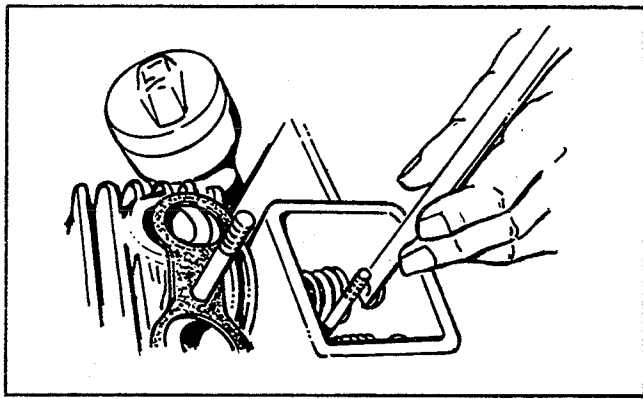

Figure 39. Adjusting engine valve tappet clearance.
13. To correct valve clearance, turn the adjusting screw clockwise to increase valve clearance or counter-clockwise to decrease clearance. A wrench should be used to hold the tappet while turning the adjusting screw (figure 39). The screw is self-locking and will stay where it is set.